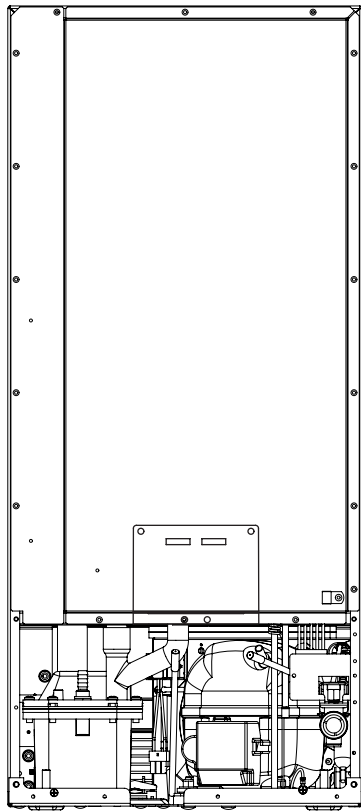
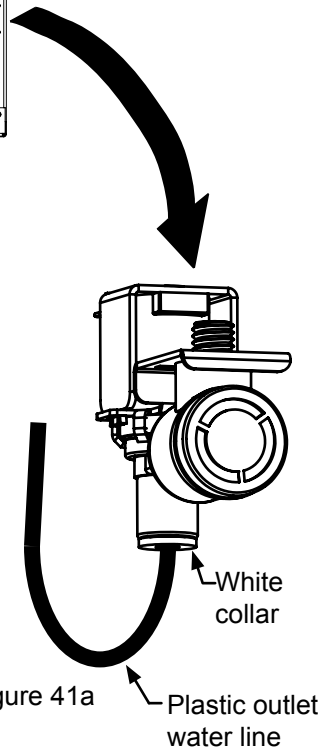

Figure 41
Figure 41a
7. Disconnect the water valve's outlet water line to the reservoir and drain the remaining water left in the water line trap area. (See Figure 41 and Figure 41a).
8. Reconnect the water valve outlet water line. (See Figure 41 and Figure 41a).